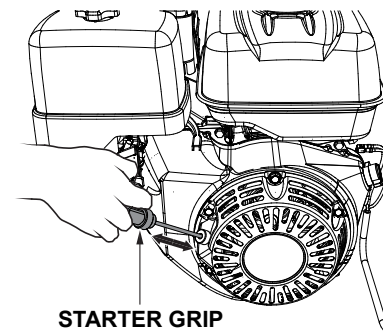

Figure 14. Starter Grip
6. Grasp the starter grip (See Figure 14) and slowly pull it out. The resistance becomes the hardest at a certain position, corresponding to the compression point. Pull the starter grip briskly and smoothly for starting.
1. Move the throttle lever to the **IDLE** position (See Figure 14) and run the engine for three minutes at low speed.